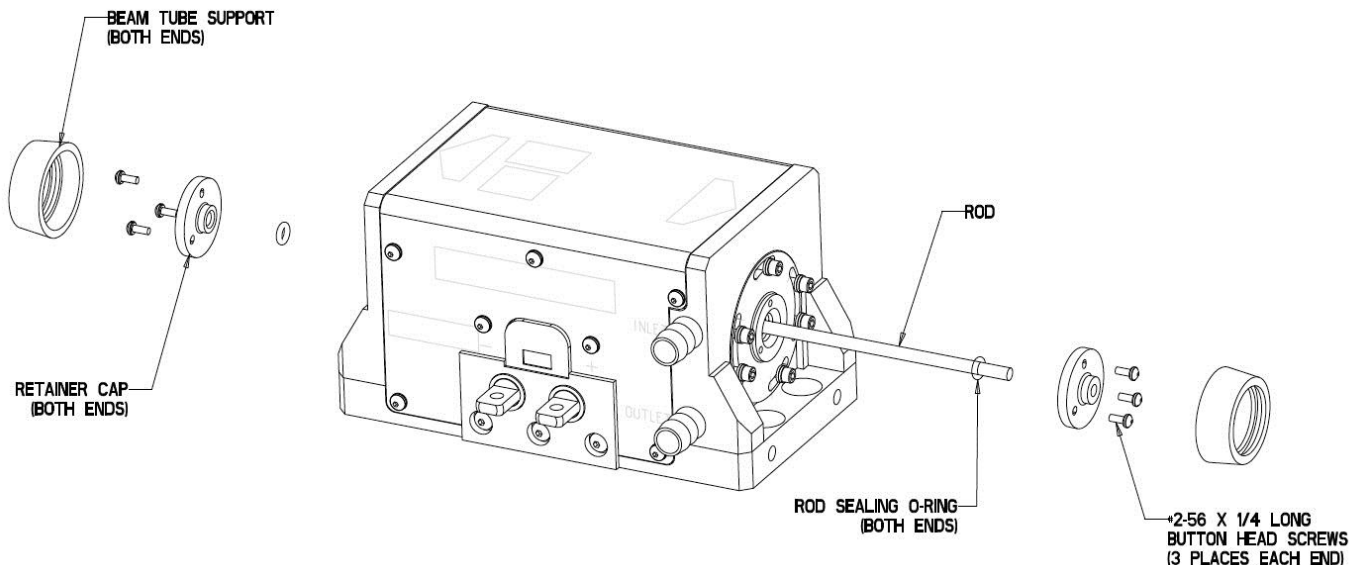

Figure 5-4 Retainer Cap without Shield Rod Replacement Drawing
- c. For the configuration shown in Figure 5-4, remove the retainer cap